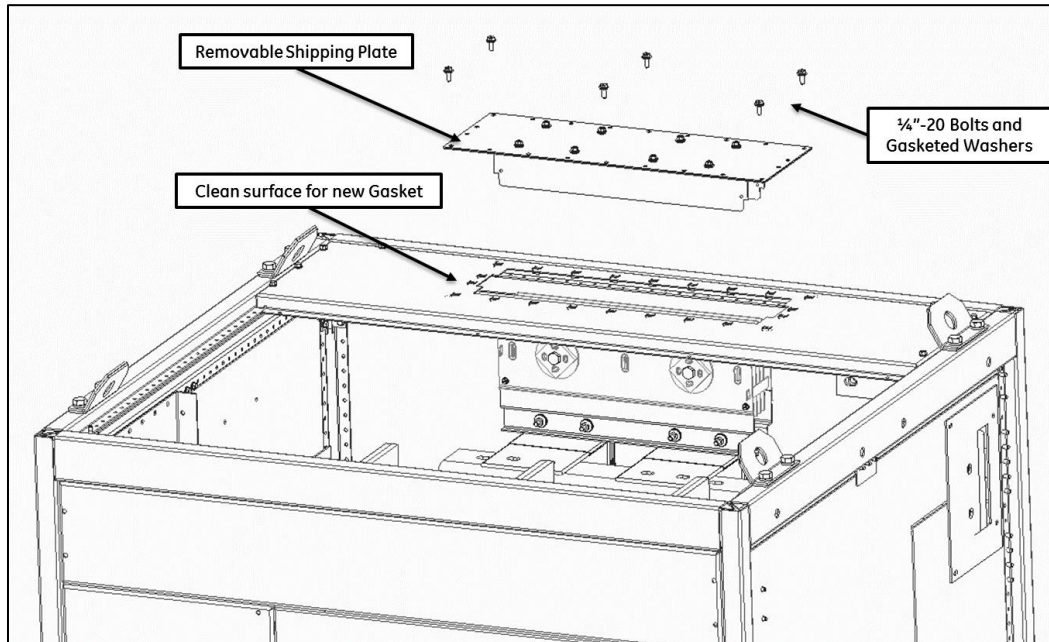

Figure 2. Removing shipping plate
- Remove all Grade-5 $\frac{1}{4}$ "-20 bolts and gasketed washers (Fig.2) from the top of the shipping plate (Note: the quantity will vary depending on the width of the switchboard and flange connection).
- Take off the removable shipping cover plate as shown in Fig. 2 and dispose of accordingly.